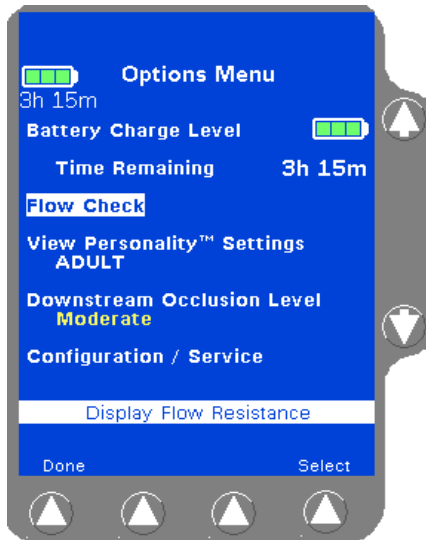

Figure 4-110 Options Menu
1. From the Main Display, press the **Options** soft key to access the Options Menu as shown in Figure 4-110.